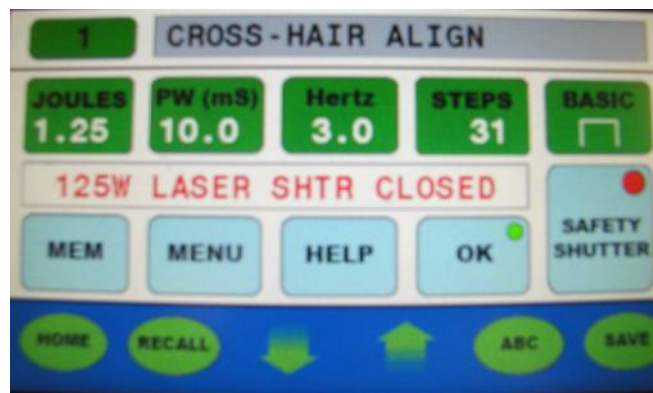

Figure 11
1. On the Main Screen put in the following Parameters. **(Figure 11)**
- 34. Press EXIT twice to return to the main screen. **(Figure 11)**